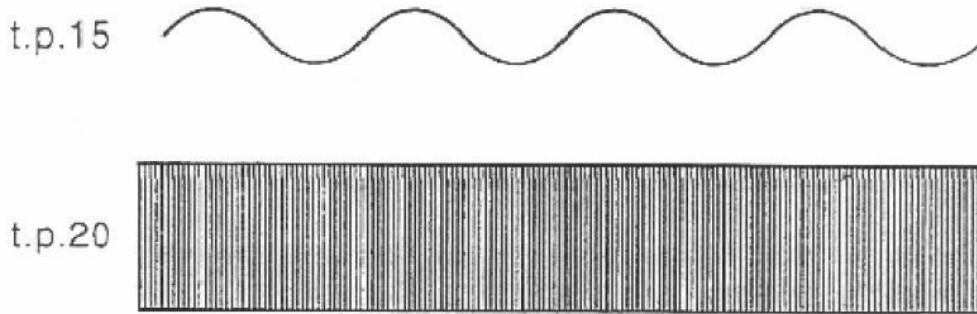

Figure 3: Input Audio Signal and SSB output Signal
7. Monitor the output of the ceramic band pass filter block (at t.p. 20) together with the audio modulating signal (at t.p.15). Note that the envelope of the signal at t.p. 20 now has fairly constant amplitude, as shown in Fig.3.